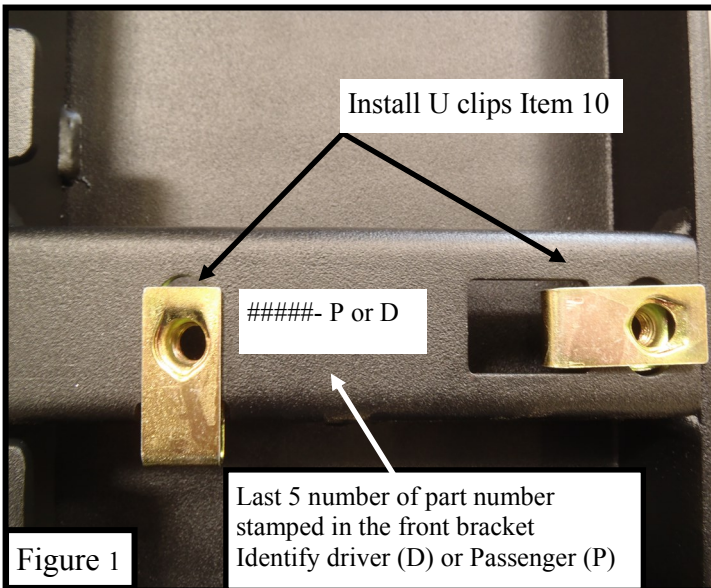

Figure 1
2. Identify driver and passenger side running boards and install M8 u-nut clips (Item 10) to the underside of the boards. **Figure 1.**